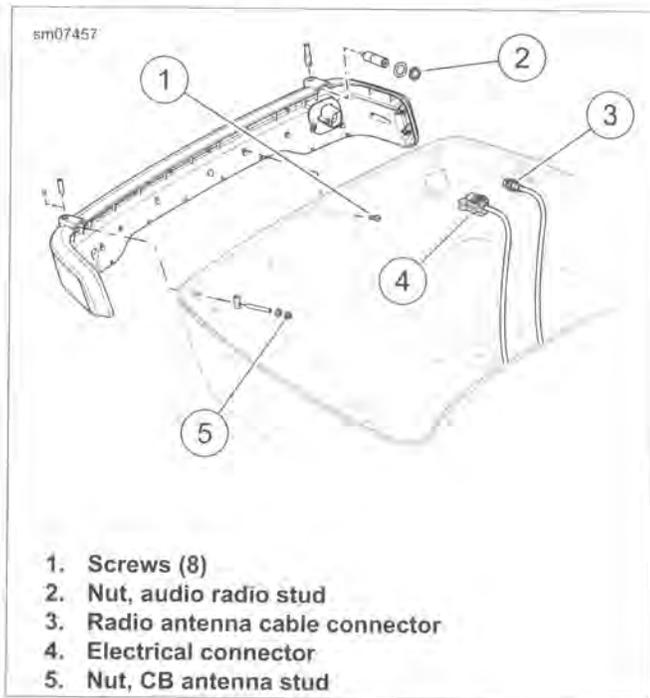

Figure 7-32. Wrap-around Lamp
3. See Figure 7-32. Disconnect radio antenna cable connector (3).
4. Disconnect electrical connector (4).
6. Remove nut (5), washer and ring terminal from CB antenna stud.
7. Remove nut (2), ring terminal and large flat washer from AM/FM radio antenna stud.
1. See Figure 7-32. Install lamp and secure with eight screws (1). Tighten to 20-25 **in-lbs** (2.3-2.8 Nm).
2. Install electrical connector (4).
3. Install large flat washer, ring terminal and nut (2) onto AM/FM radio antenna stud. Tighten to 16-19 **in-lbs** (1.8-2.1 Nm).
4. Connect AM/FM radio antenna cable connector (3).
5. Install ring terminal, flat washer and nut (5) onto CB antenna stud. Tighten to 14-16 **in-lbs** (1.6-1.8 Nm). Connect CB antenna cable if equipped.